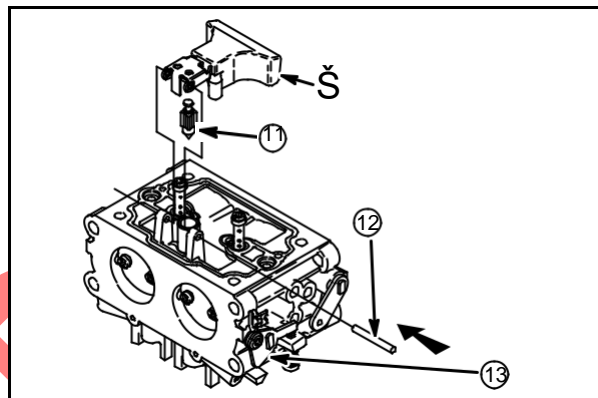

Fig. 70
Assemble inlet needle (11) to float (10). Install float assembly to carburetor body, **Fig. 70**. Install float hinge pin (12) from throttle lever (13) side.